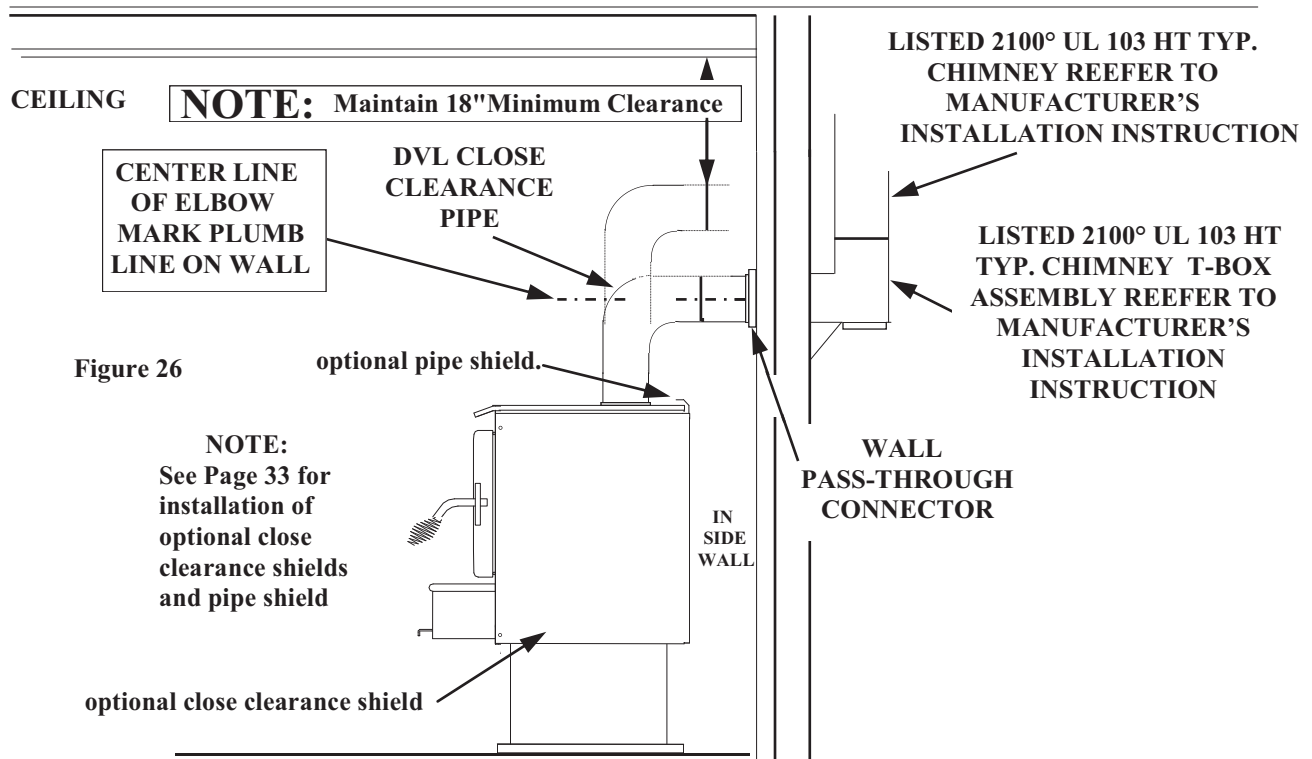

Figure 26
(See Page 28, Figure 26).
3. Measure up so there will be at least 1/4" rise per foot of horizontal connector pipe, maintaining clearances to ceiling as noted in (Page 28, Figure 26). This will give you center of hole for chimney penetration.
5. Connect the DVL close clearance pipe to tee-box, per manufacturer's instructions. DVL close clearance pipe is to be connected with (3) sheet metal screws or rivets to connector collar on heater.(See Page 28, Figure 26).